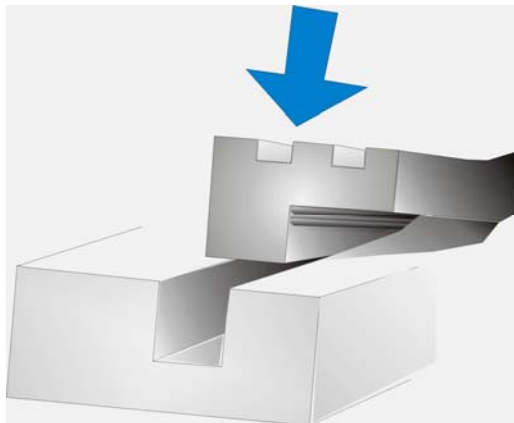

Figure 4-1: Gasket Replacement
Step 8: Attach the new gasket to the monitor. Make sure the gasket fits precisely into the groove along the edges of the monitor's front panel (**Figure 4-1**).